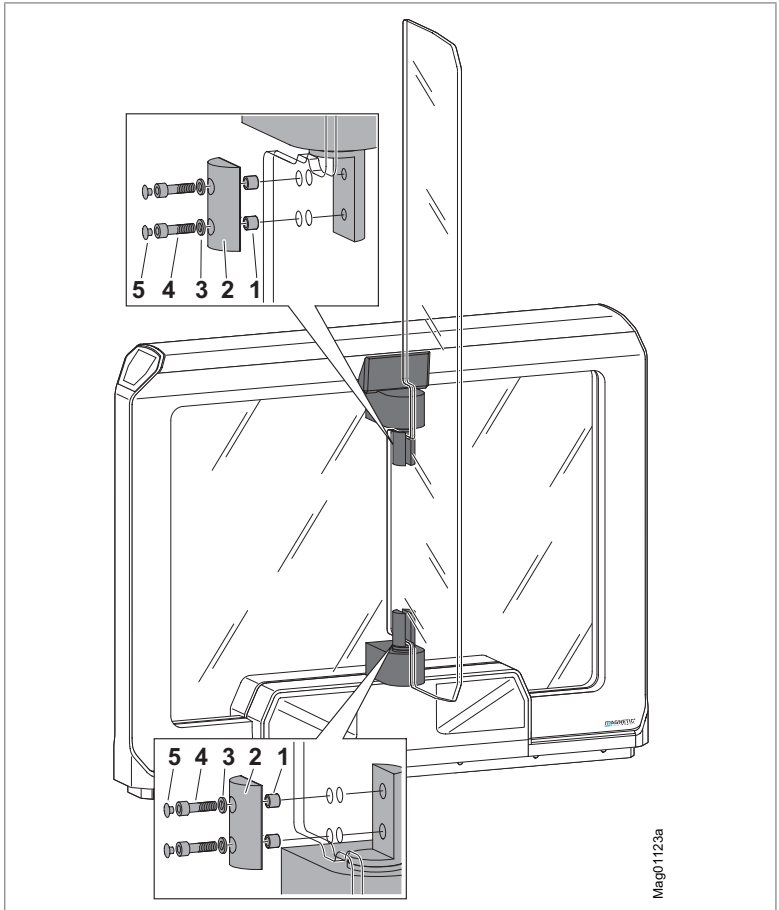

Fig. 37: Mounting high version of the swing wing
- › Swing wing in high version: ↗ Page 67, Fig. 37.